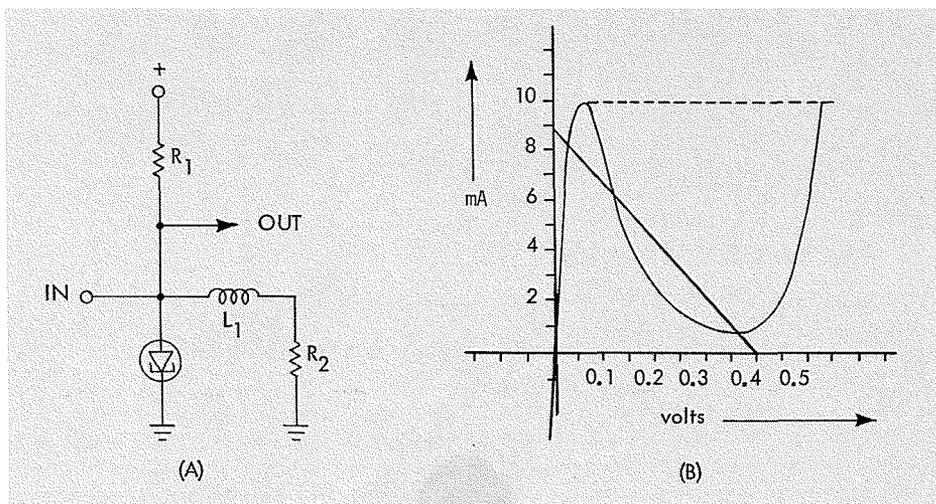

Figure 5 (A) Another version of a monostable tunnel diode switching circuit. The coil,  $L_1$ , helps to increase the output voltage and switching speed.
(B) AC and DC load lines superimposed on a 10-mA curve of the tunnel diode in Figure 5, (A).